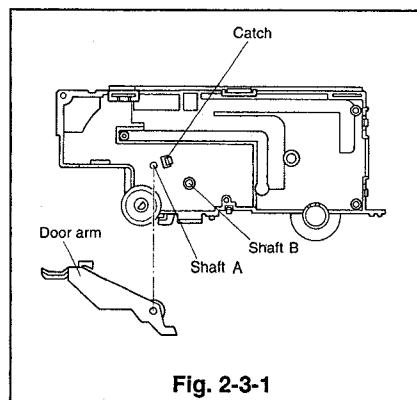
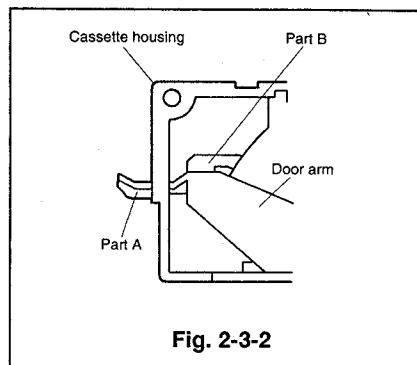

Fig. 2-3-1
Fig. 2-3-2
- ③ Unfasten the catch shown in Fig. 2-3-1 to remove the door arm. (Pull the door arm at the same time as unfastening the catch.)
- ① Fix the door arm to the shaft A shown in Fig. 2-3-1 and secure it with the catch so that the parts A and B are inside of the cassette housing, as shown in Fig. 2-3-2.
- ② Install the takeup arm, sens gear, and side plate.